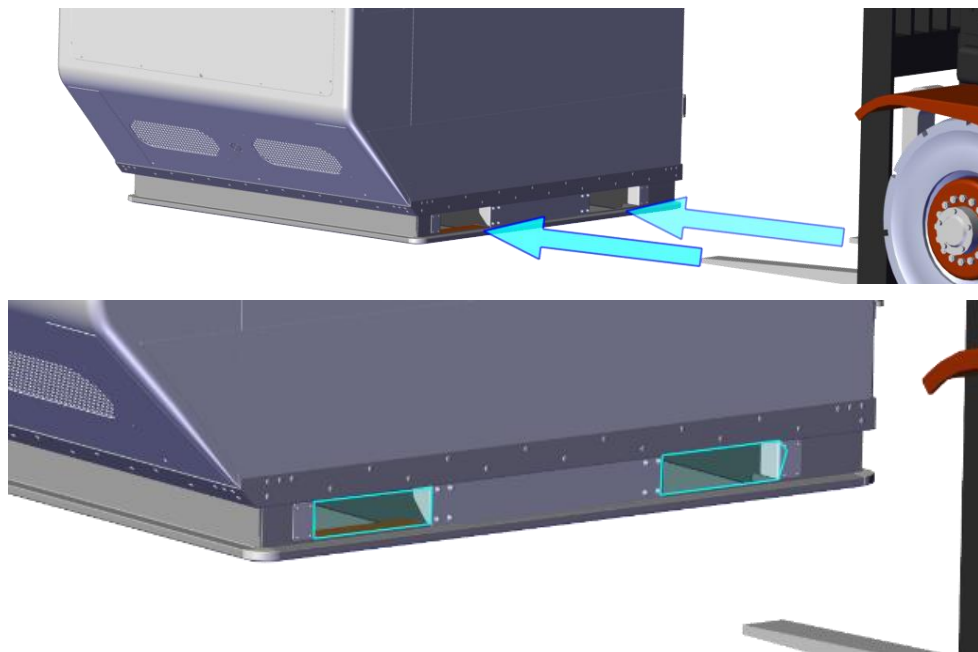

Figure 5 – Forklift pocket located on the forward/aft side of the container
- Use a forklift to lift the container (Figure 5).